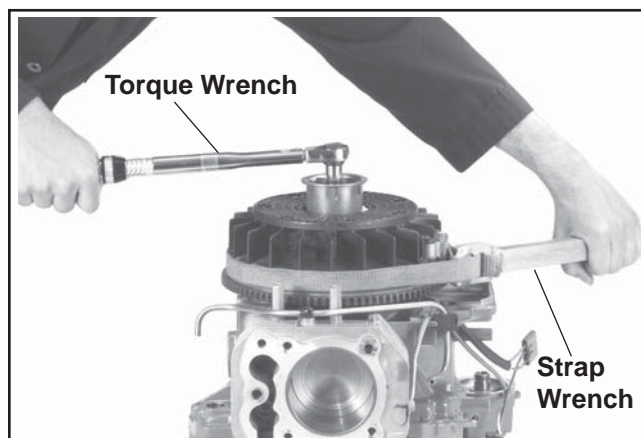

Figure 11-31. Torquing Flywheel Fastener (Retractable Starter Models).
4. Hold the flywheel with a strap wrench or holding tool (see Section 2) and torque the hex. flange screw to **66.4 N-m (49 ft. lb.)**. See Figures 11-31 and 11-32.